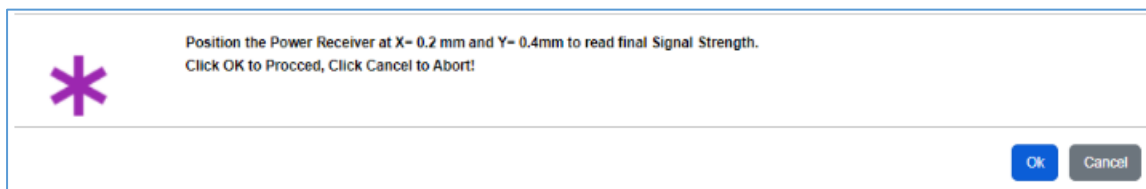

FIGURE 6.12: FIND OPTIMUM COIL POSITION - #7
12. Obtain the active referencing value from the final pop-up message (as seen in Figure 6.12 below).